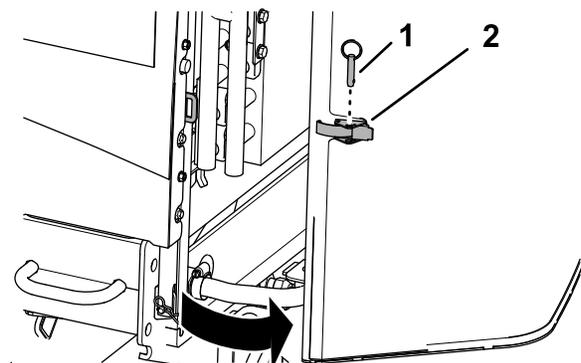

Figure 61
1. Remove the ball pin from the screen latch (Figure 61).